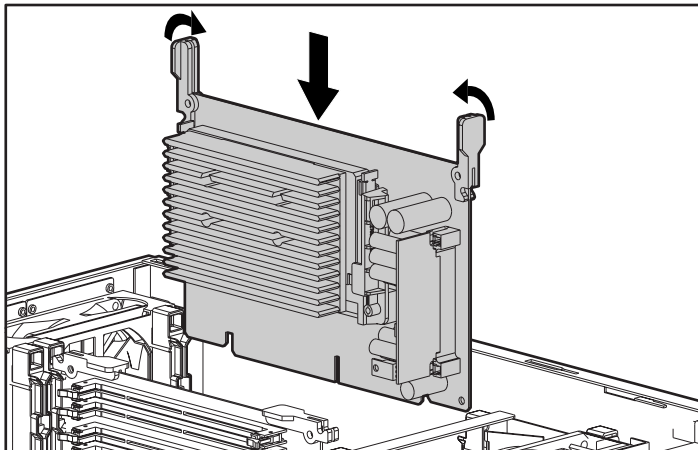

Figure 4-3. Installing the Pentium II processor board
2. To install a Pentium II processor board, follow the instructions included in the processor option kit to install the processor on the board. then see Figure 4-3.